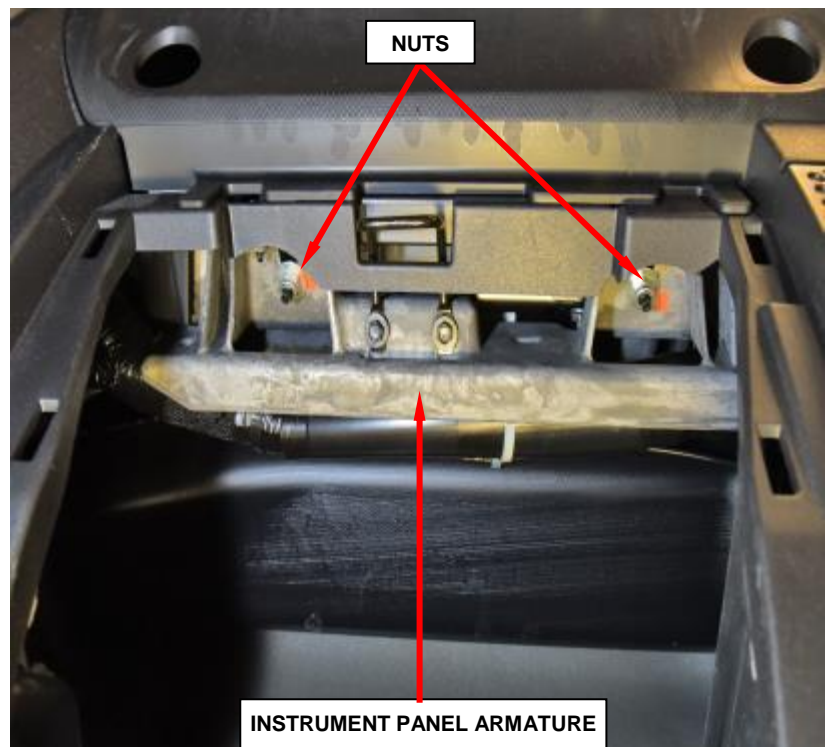

Figure 87 – Lower Passenger Airbag Nuts
6. Reach up into the instrument panel glove box opening to access and remove and **save** the two nuts that secure the passenger airbag lower studs to the instrument panel armature on each side of the glove box latch striker (Figure 87).